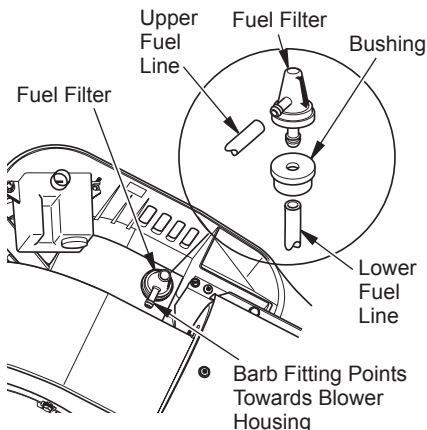

Figure 23 - Fuel Filter Removal
2. Pull upper fuel line off fuel filter neck (see Figure 23).
3. Carefully pry bushing, fuel filter, and lower fuel line out of fuel tank (see Figure 23).